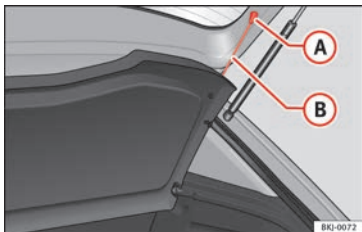

Fig. 140 In the luggage compartment: removing and installing the rear shelf.
- Unhook the loops »» Fig. 140 (A) from their hooks (A).
- Attach the fastening loops »» Fig. 140 (B) to the rear lid.